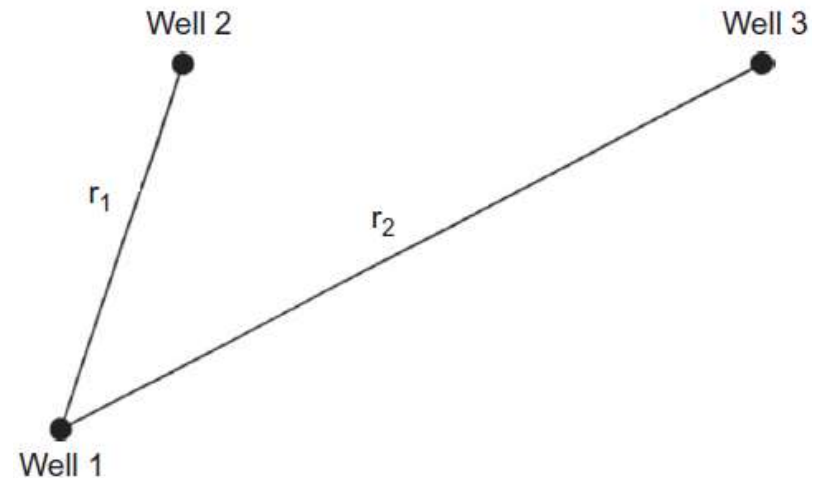

Figure 1: Three wells are producing at different flow rates from an infinite acting reservoir.
- Consider the Figure 1, which shows three wells that are producing at *different flow rates* from *an infinite acting reservoir*, i.e., *unsteady-state flow reservoir*.